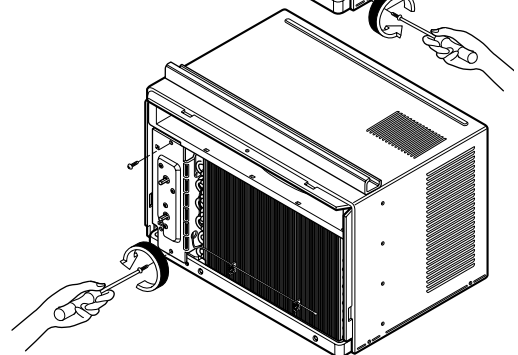

Figure 16
4. Remove 2 screws that secure the control board to base pan and air guide. (See Figure 16)